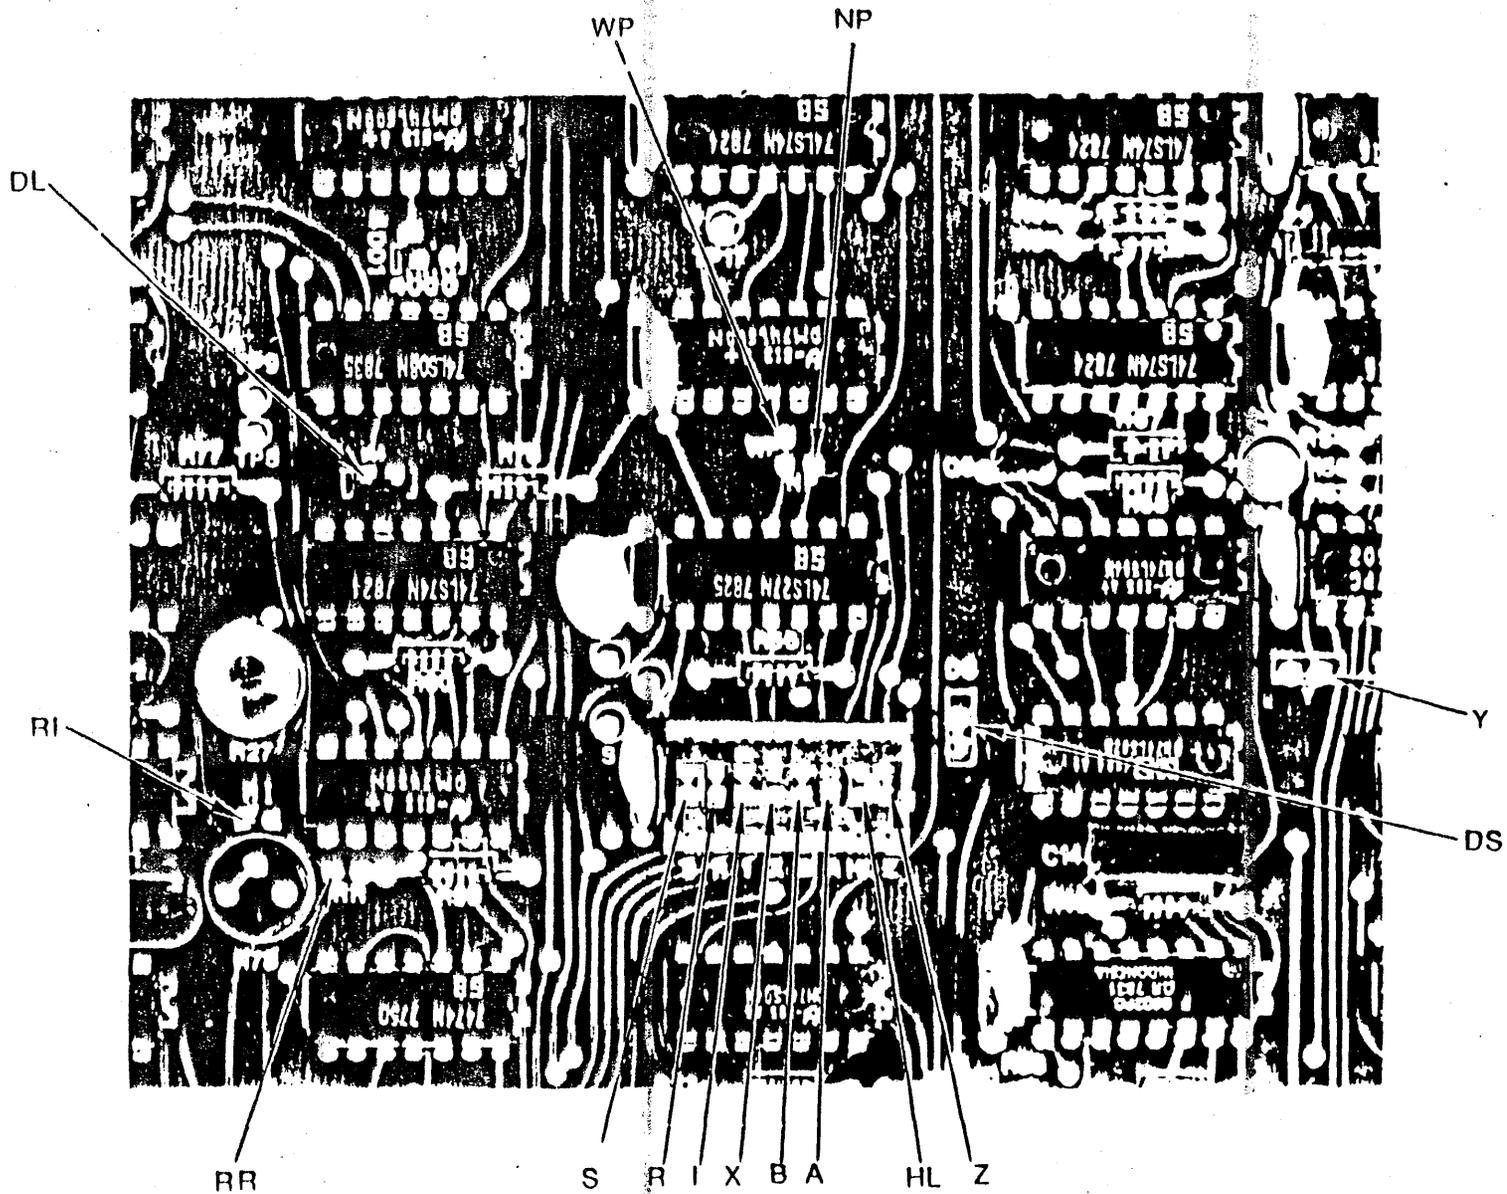
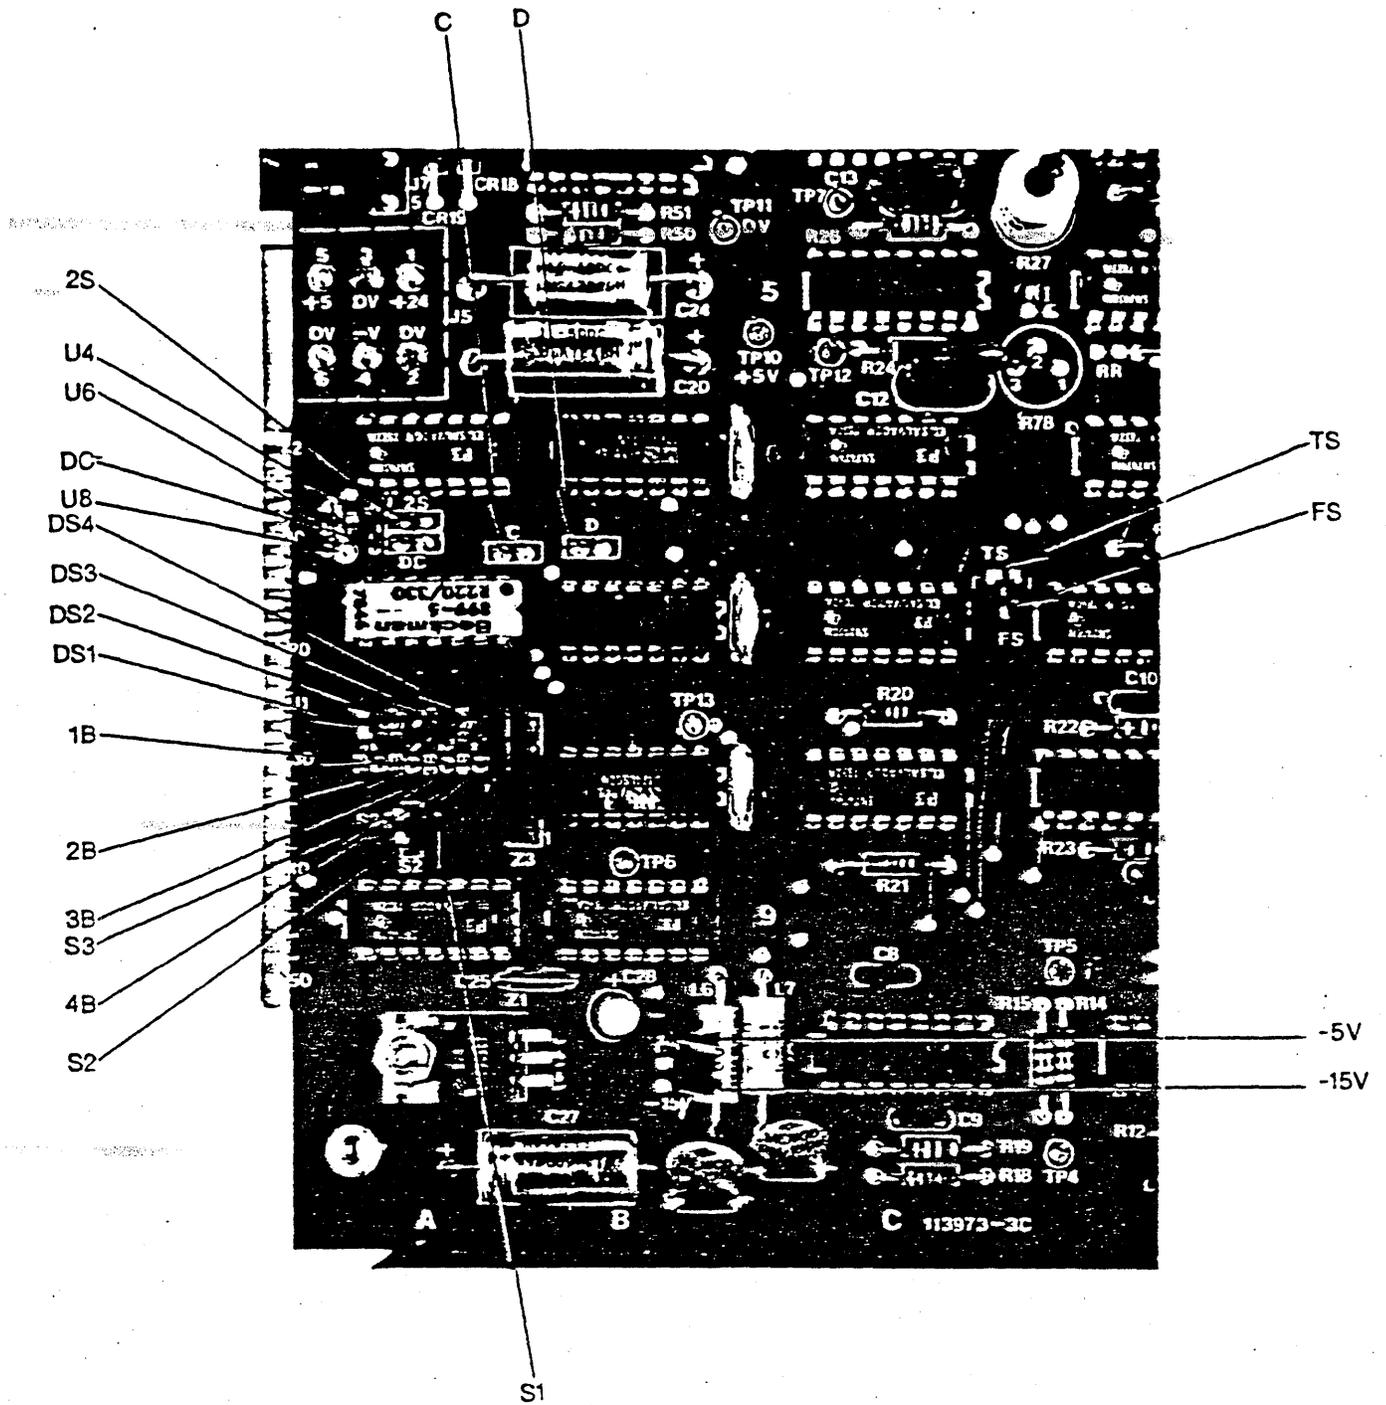

Figure 3-8. Trace and Jumper Locations for DL, WP, NP, RI, RR, S, A, I, X, B, A, HL, Z, DS, Y.
Figure 3-9. Trace and Jumper Locations for 2S, DC, C, D, TS, FS, DS1-DS4, 1B-4B, S1-S3, U4, U6, U8.
The diskette drives can be modified by the user to function differently than outlined in Sections 3.1 thru 3.4. This is accomplished by adding or deleting traces and/or using shorting plugs. Certain I/O pins have been reserved for this usage. When shorting plugs are used, the type of plug recommended is AMP 530153-2 or equivalent. The following sections describe the options and their installation. Table 3-2 contains a summary of the customer cut/add trace options as they are shipped from the factory. Figures 3-8 and 3-9 show the trace locations on the circuit card. Section 4.2.13 describes the differences in theory for each option.
With this option, the drive select lines can be used to select four read/write heads on two drives rather than select the four different drives. This can only be used in systems containing no more than two drives. It is implemented by moving jumper S2 to S3 (see Figure 3-9) and adding a jumper at DS_n (see Figure 3-9) where n (n = 1, 2, 3 or 4) is the desired head select number for side 0. A jumper is also added at nB where n (n = 1, 2, 3, 4) is the desired head select number of side 1 of that drive. For example, to allow drive select lines 2 and 3 to select sides 0 and 1, respectively, change S2 to S3 and add jumpers at DS2 and 3B. It should be noted that 0V is required to select both sides. No drive select lines are to be duplicated.
- a. Cut trace R (see Figure 3-8).
- b. Cut trace RR (see Figure 3-8).
- a. Cut Trace RI (see Figure 3-8).
- b. Cut Trace I (see Figure 3-8).
- c. Cut Trace S (see Figure 3-8).
- d. Add a wire from pad I (see Figure 3-8) to one of the following: pin 4, 6 or 8. Do not use the same pins again on this drive or any other drive since all drives are daisy chained.
- e. Add a wire from pad S (see Figure 3-8) to one of the following: pin 4, 6, or 8. Do not use same pin as step d. Do not use the same pins again on this drive or any other drive since all drives are daisy chained.
As indicated in Table 3-2, the two-sided option is shipped with the jumper removed. Installing the jumper at 2S provides the two-sided output interface signal described in Table 3-1 at J1-10. Refer to Figure 3-9 for jumper 2S location.
As indicated in Table 3-2, the circuit card is shipped from the factory with a jumper installed at I. This provides the interface output signal at J1-20 as described in Table 3-1. Removing the jumper disconnects this interface signal. See Figure 3-8 for I location.
As indicated in Table 3-2, the circuit card is shipped from the factory with a jumper installed at S. This provides the interface output signal at J1-24 as described in Table 3-2. Removing the jumper disconnects this interface signal. Refer to Figure 3-8 for S location.
As indicated in Table 3-2, the circuit card is shipped from the factory without a jumper installed at DC. If the customer selects this option and installs the jumper at DC, the interface signal at J1-12 will provide the Disk Change Output as described in Table 3-1. Refer to Figure 3-9 for DC location.
- a. Cut trace X (see Figure 3-8).
- b. Install a jumper at trace C (see Figure 3-8).
- b. Jumper trace DS (see Figure 3-8).
- c. Cut trace HL (see Figure 3-8).
- d. Jumper trace C (see Figure 3-9).
- a. Cut trace A (see Figure 3-8).
As indicated in Table 3-2, the circuit card is shipped from the factory without a jumper installed at trace D. See Figure 3-9. If the customer selects this option and installs the jumper at D, the interface signal at J1-16 will provide the In Use function, i.e., will turn on the BUSY LED and lock the door.
- a. Remove the jumper at trace S2 (see Figure 3-9).
- b. Install the jumper at trace S1 (see Figure 3-9).
This option allows the door latch circuit to be activated by the Drive Select line without maintaining the In Use line. This permits the door to remain locked without activating the In Use line. The door is unlocked by again activating the Drive Select line when the In Use line is inactive. The option is installed by installing jumpers at D (see Figure 3-9) and DL (see Figure 3-8).
- a. Cut trace WP (see Figure 3-8).
- b. Install jumper at NP (see Figure 3-8).
As shipped from the factory, the standard drive is set up to run with a -7V to -16 Vdc external power supply. This voltage is then applied to a -5Vdc regulator which generates the required -5 Vdc. To allow the drive to operate directly from a -5 Vdc external power supply, install jumper trace -5V (see Figure 3-9).
For FM applications using IBM soft sector (missing clocks) format with jumper at trace TS the data separator will provide a true data and clock separation during read. See Figure 3-9. With the jumper at TS removed and a jumper installed at FS (see Figure 3-9), the data separator may not decode the data and clock correctly in the missing clock field.